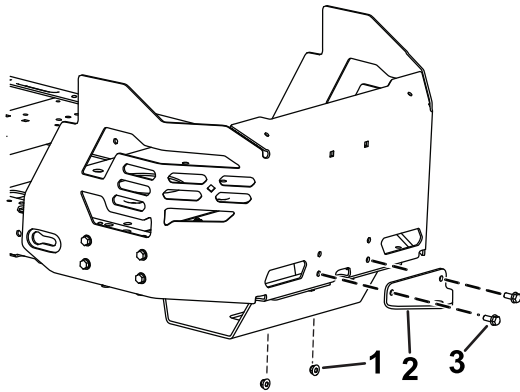

Figure 1
1. Remove the existing 2 bolts, 2 nuts, and hitch bracket from the bottom of the engine guard (Figure 1).